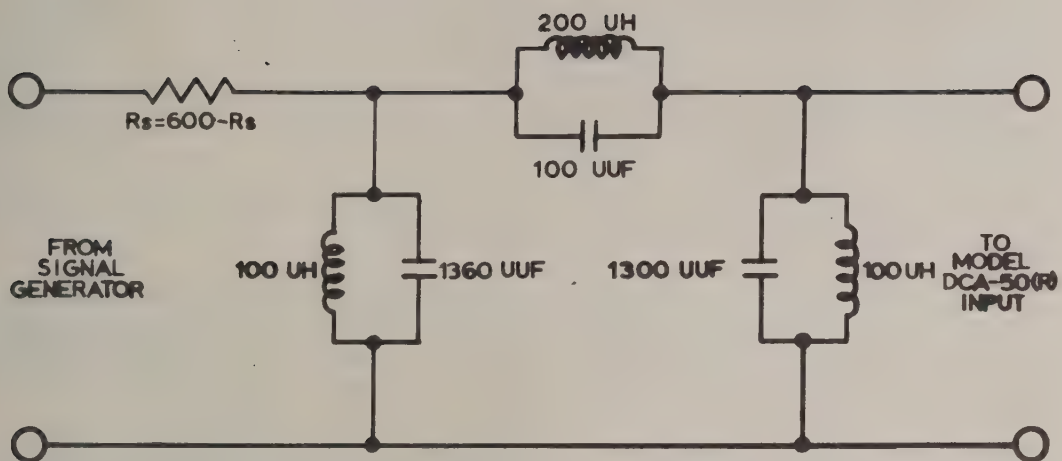

Figure 6 - Band-Pass (Purifying) Filter for Obtaining a Pure 500 kc Signal.
Since the typical Model DCA-50(R) Amplifier distortion at 500 kc/s is approximately 2-3%, a signal generator with less than 1% distortion is required for this measurement. If a generator with this distortion specification is not available, a band-pass (purifying) filter, shown in Figure 6, can be constructed to obtain a suitable distortion-free 500 kc/s source.
- a. Sine-wave generator of approximately 10 volts rms maximum output at 500 kc/s with less than 1% distortion. If a generator with less than 1% distortion is not available, the purifying filter, shown in Figure 6, must be used. Since the filter has a gain of approximately five, a generator with approximately 2 volts rms output at 500 kc/s is sufficient.
Turn the Amplifier on and set the INPUT SELECTOR switch to the 1 CPS X10 position. Connect the 200 ohm non-inductive load between the AC OUTPUT terminal and chassis ground. Apply a 10 volt rms 500 kc/s signal to the INPUT terminals of the Amplifier directly if the distortion of the sine-wave generator is less than 1%. If the distortion of the 500 kc/s source is greater than 1%, which is true for most commercial generators, insert the purifying filter, shown in Figure 6. This filter is designed to operate with a 600 ohm source. If the sine-wave generator has an internal impedance of 600 ohms, no additional series resistor, R_s , is required. If the generator source impedance is lower than 600 ohms, it is necessary to add a resistor so that the sum of R_s and the generator source impedance is equal to approximately 600 ohms.